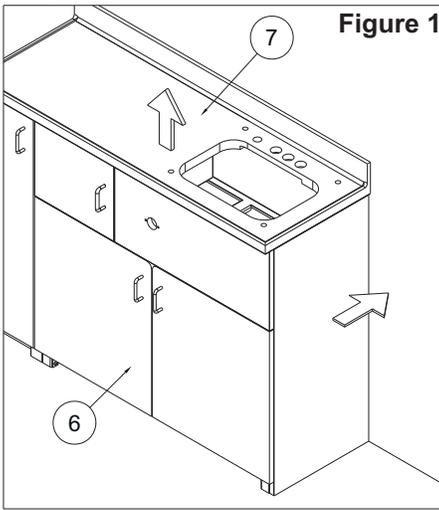

Figure 1
- A. Remove Countertop [7] From Cabinets [6] and set to the side for a later time. (Figure 1)
- B. Set Cabinet against Finished wall, remove the cabinet floor panels and mount the unit to Cabinet Anchors [5]. (Figure 1)